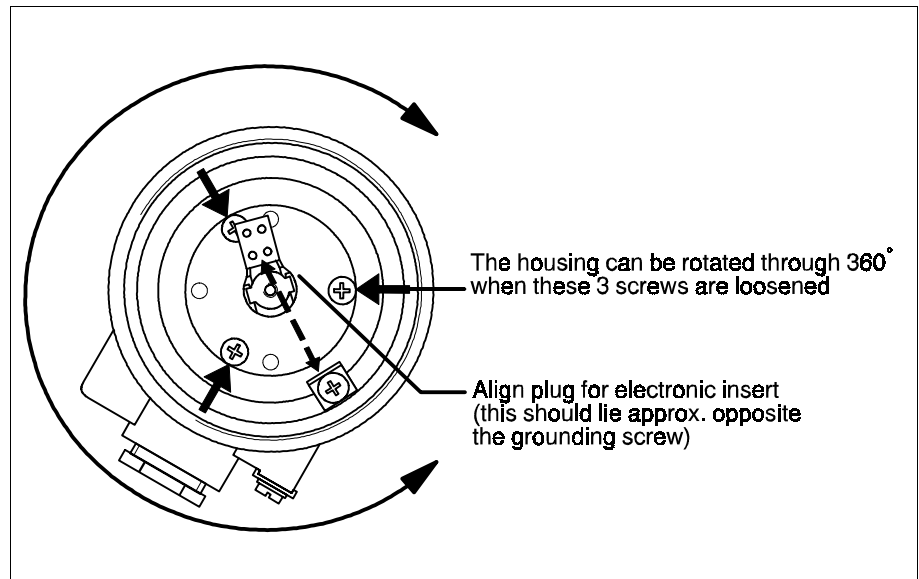

Fig. 11
- Slightly loosen the 3 screws in the housing, see Fig. 11